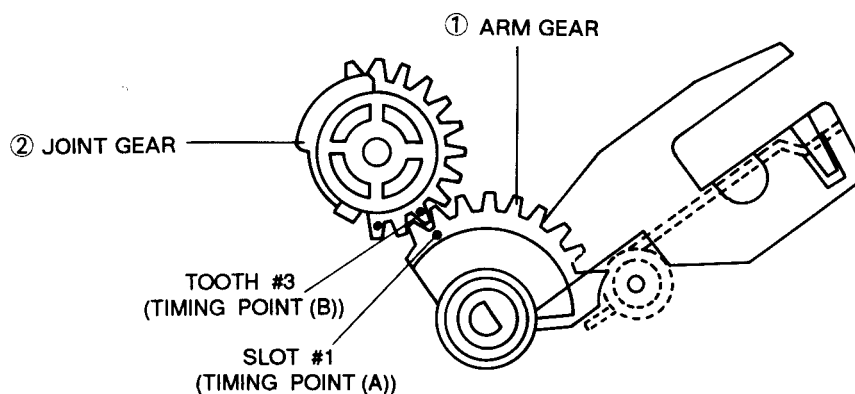

Fig. 10 Reassembly Joint Gear & Arm Gear
1. Install the arm gear ① so that the slot #1 (Timing Point (A)) of arm gear ① and the tooth #3 (Timing point (B)) of joint gear ② are aligned correctly as shown in Fig. 10.